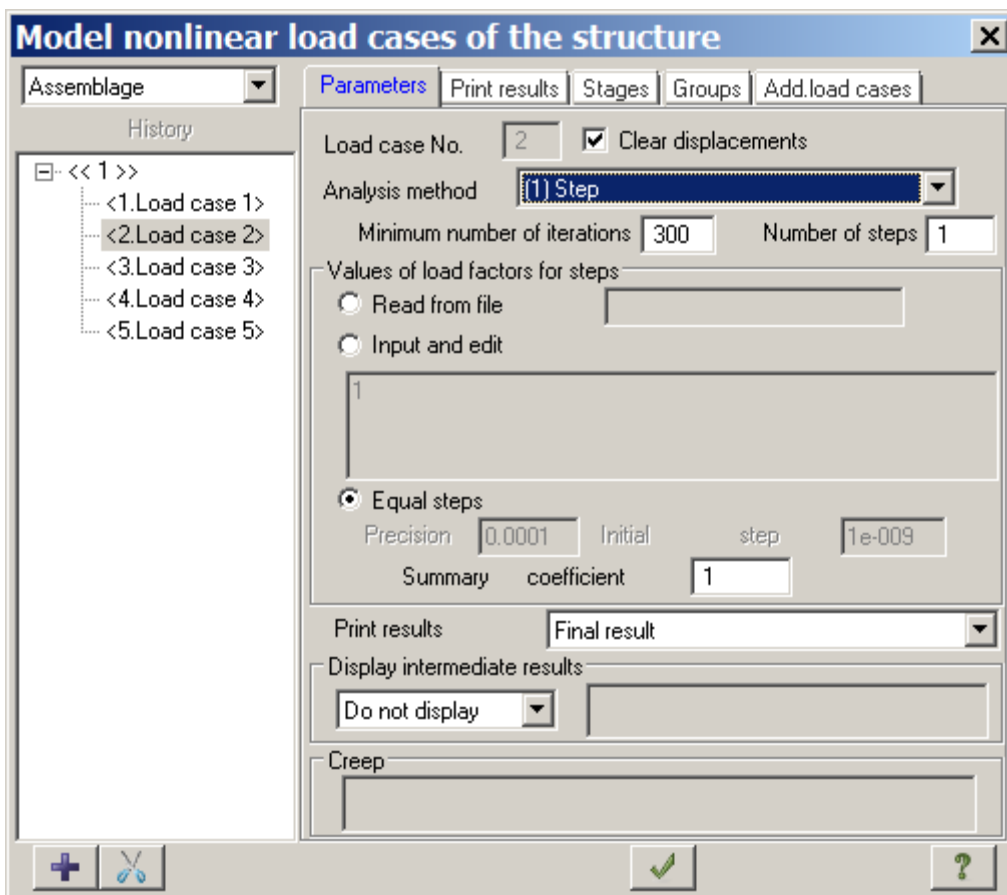

Figure 10.23 **Model nonlinear load cases of structure** dialog box for defining parameters of nonlinear load case
- ⇒ Select the **Clear displacements** check box (see Figure 10.23).